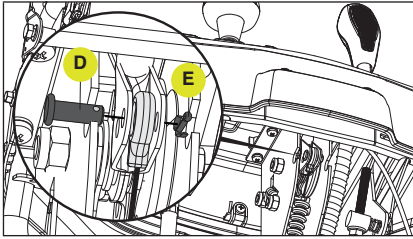

Figure 83
6. Under the control panel, location the chute deflector cable, remove both the pin (D) and cotter pin (E). (Fig. 83)